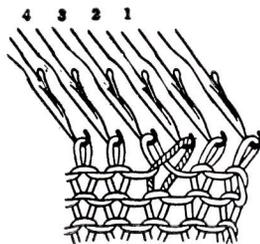

Fig. 50
- b. To the 3rd empty needle hang the below stitch of either neighboring stitch. (See Fig. 50 or 51, 52)